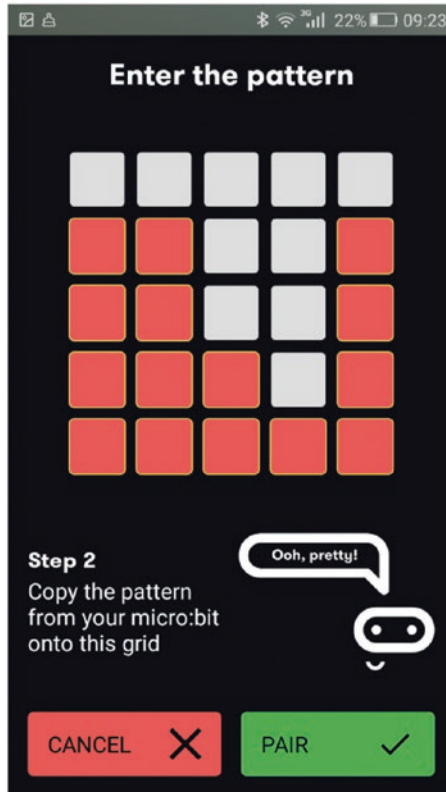

Figure B-5. Pairing step 2
8. The micro:bit will display a pattern on the LED display, and the app will show an empty grid. Now copy the pattern from your micro:bit onto the grid of the app. If you have created the same pattern on the grid, the app displays the message Ooh, pretty! (see Figure B-5). Then tap the PAIR button to pair the micro:bit with the mobile device.